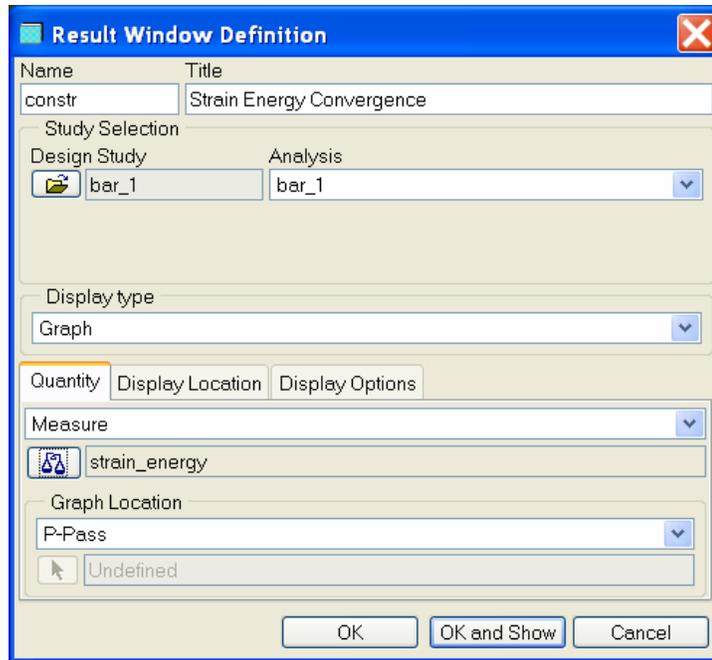

Figure 27
- Define another Strain Energy Convergence graph as shown in Figure 27.